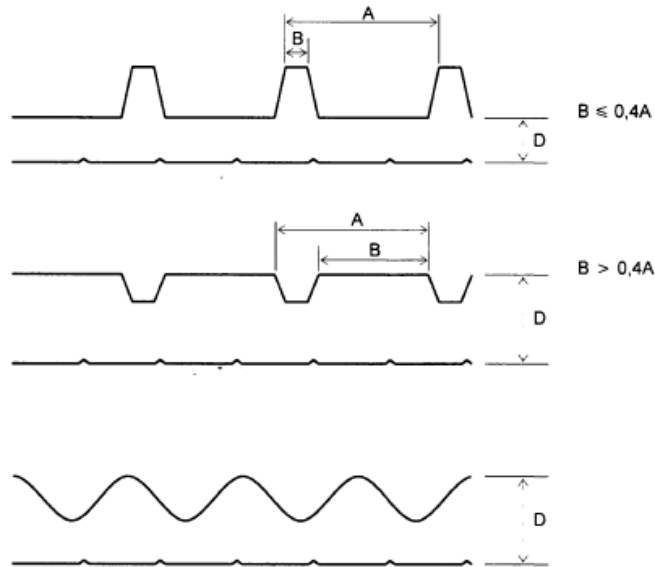

Fig. D.1
The measured thickness (D) of the panel shall be the nominal distance between the external flat surfaces of the faces excluding from the measurement any trapezoidal profiles or stiffeners and including the thickness of both metal faces (see Figure D.1). These measurements shall be taken at each end of the panel on lines 200 mm from the ends of the panel and at a minimum distance of 100 mm from the longitudinal edge. Two of these measurements shall be at the opposite edges of the panel and one at the center. In the case of panels that have profiled faces, the measurement shall be made at the position of predominant thickness. FPC records shall indicate where, within the geometry of the panel, this measurement is to be made and a consistent measurement location shall be used.